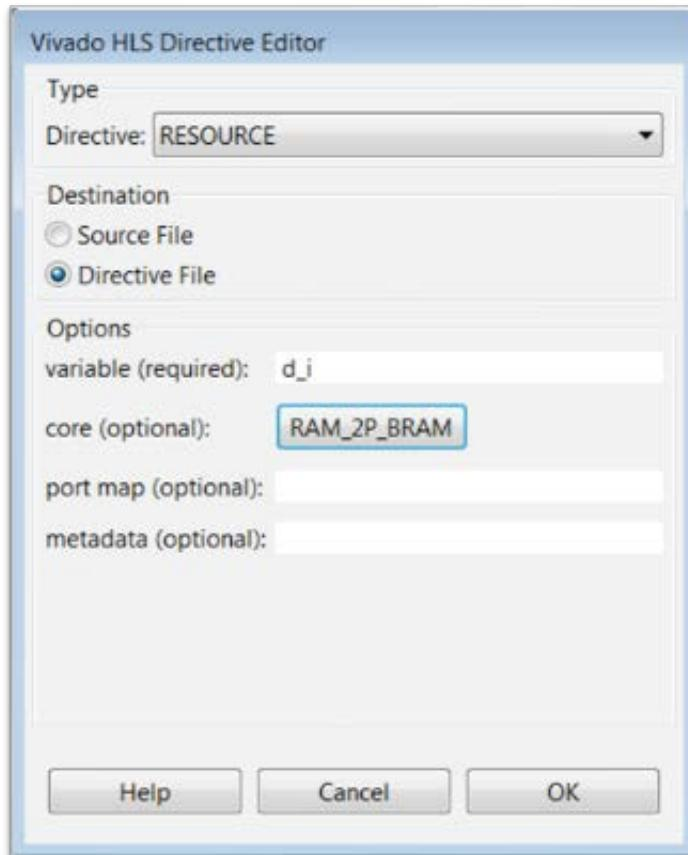

Figure 73 Directives Editor for Specifying a Dual-port RAM
- c. With the Directives Editor as shown in Figure 73, click OK.